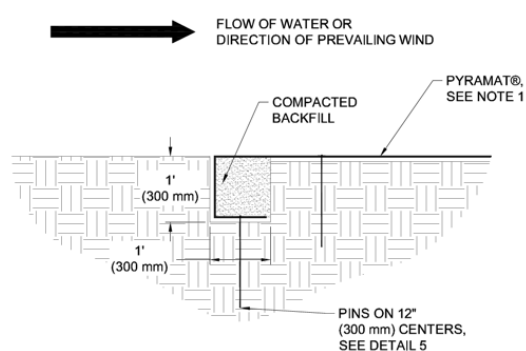

Figure 3: Terminal Channel (TC) trench
5. Excavate a Terminal Channel (TC) trench a minimum of 12 in x 12 in (300 mm x 300 mm) across the channel at the upstream end of the project (Figure 3). Deeper TC trench and/or hard armoring may be required for channels that have the potential for scour.